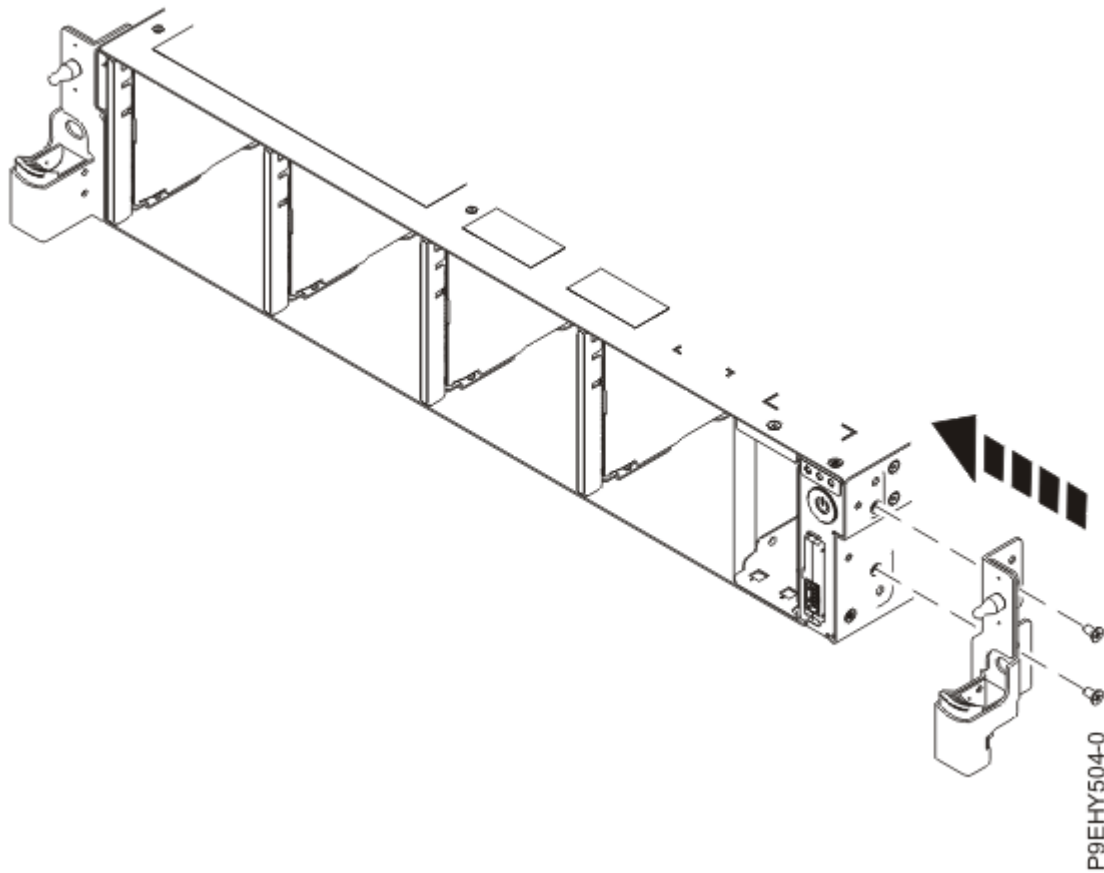

Figure 45. Replacing the rack installation support
7. Replace the rack installation support on the side of the system as shown in Figure 45 on page 60.